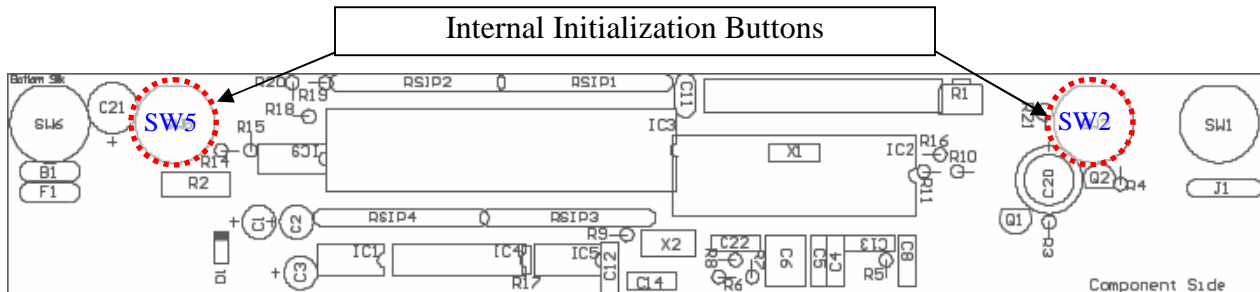

Figure 8: Location of Internal Initialization Buttons
STEP 1: (Figure 8) Remove the two (2) screws on the bottom of the display housing. The initialization buttons are located internally on the PC Board. Refer to **PC BOARD LAYOUT** (SW2 and SW5).